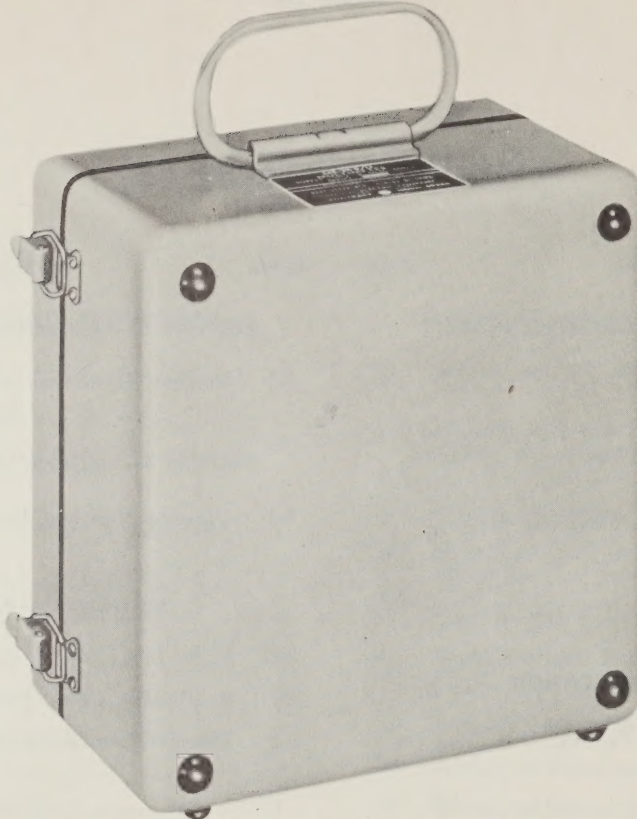

Figure 1-1. Multimeter ME-25B/U with Cover Closed.
(1) GENERAL.—Multimeter ME-25B/U, illustrated in figures 1-1 and 1-2, has a smooth grey finished aluminum case and panel with black markings. The meter dial has green markings for ohms, purple-blue for 1 V.A.C., and black markings for all its other scales. The case is fitted with a steel bail-type handle on the top and rubber feet on the bottom and back. It may be used or stored in either an upright or in a horizontal position.
(2) TEST LEADS.—There are four probes with leads which are permanently attached. They are designated W-101, W-102, W-103, and W-104. Probe W-101 (black) is used to contact DC voltage and has a 5 megohm resistor, R-102, inside its probe handle. This resistor provides isolation between the instrument and the voltage source, and is part of the voltage divider network for all DC voltage inputs. The lead is shielded to prevent any interference from stray fields. The shield is grounded inside the case of the meter. Probe W-102 (red) is a general purpose probe, and is used to contact the source of DC current, resistance, and AC voltage. Probe W-103 (black) is the ground or negative return lead used with either W-101 or W-102 for all their measurements. Probe W-104 (heavy black lead) is used to contact the sources of RF voltages, and it may be used in place of W-102 to contact AC voltages if they do not exceed 100 volts. When it is not in use as a probe, W-104 must be returned to its place in the lead compartment so that its diode, V-101, can be used to rectify any AC voltage which will be contacted by W-102. The large probe head contains rectifying tube V-101, together with two capacitors, C-103 and C-104. These four probes and leads, together with AC power lead W-105, high